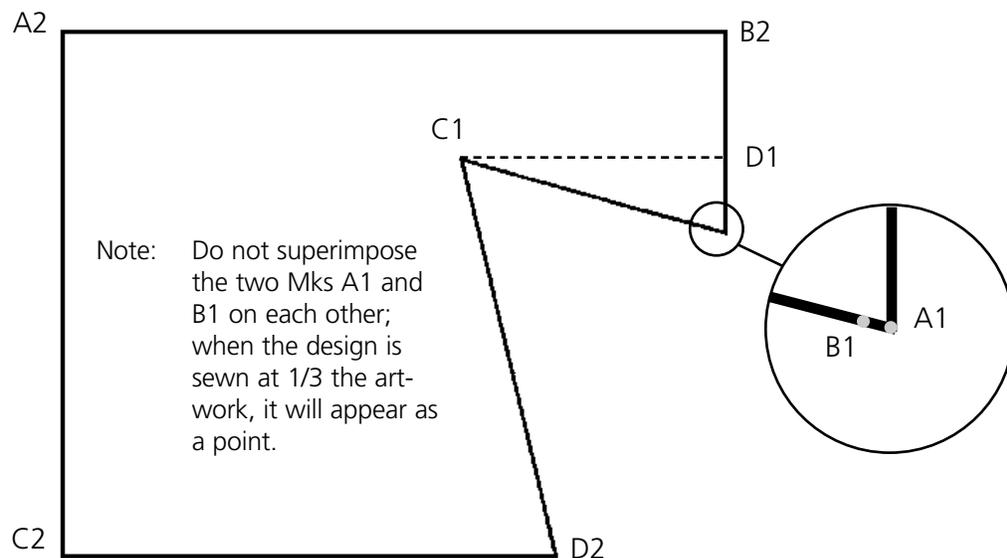

Figure 5-55
1. Draw a line between points C1 and D1 as shown in Figure 5-55. This line must be parallel to the top line of the design (A2 to B2 in the illustration).
2. At the first of the two fills (the triangle) label the first line "A1-B1" and last line "C1-D1" as shown in Figure 5-55.
3. Around the second of the two fills, label the first line A2-B2 and last line C2-D2, also shown in Figure 5-55.